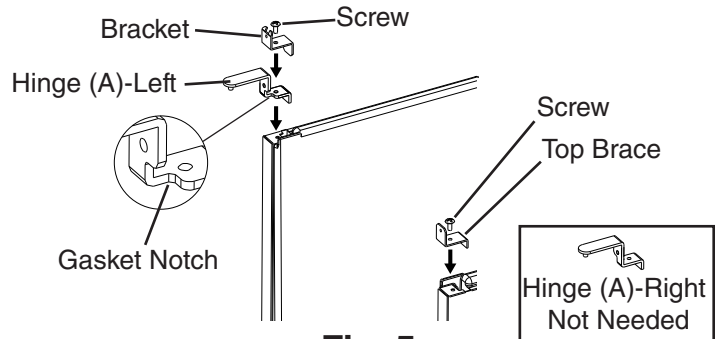

Fig. 5
c) Remove hinge (A)-right and the bracket from the right side of the appliance. Set aside hinge (A)-right; it is not needed. Remove the top brace from the left side. Fasten hinge (A)-left and the bracket to the left side and the top brace to the right side. See Fig. 5.